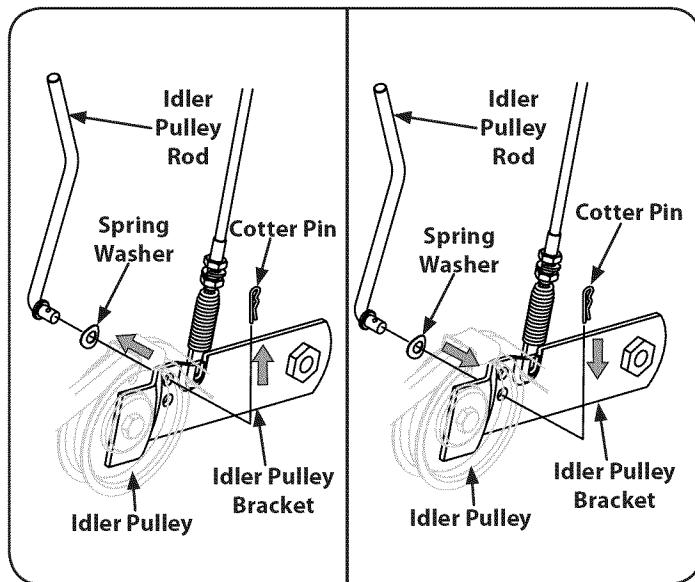

Figure 30
3. Remove the cotter pin and spring washer from the idler pulley rod. See Figure 30.